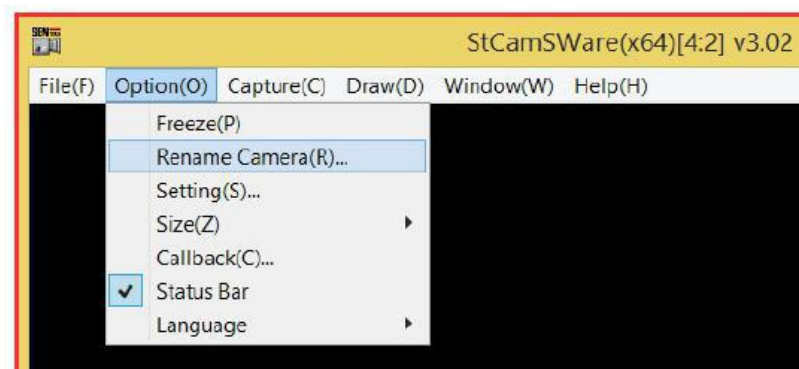

Figure 29 Optical Camera Live View
27. Go to “Option” and select Rename Camera (R) as below Figure 29.